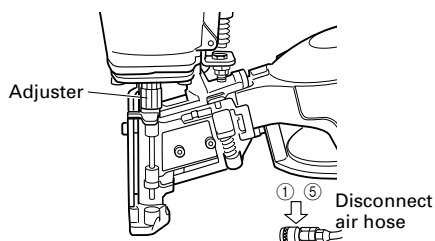

Fig. 8
- ① DISCONNECT AIR HOSE FROM NAILER (Fig. 8)